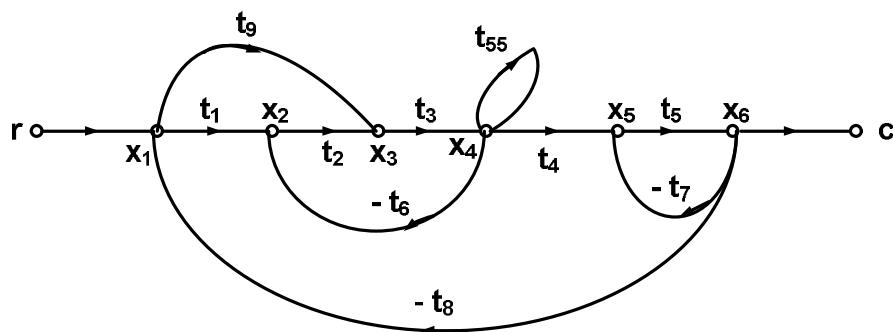

Fig.6.1. Example of a SFG model
**Input or source node:** It is a node that has only outgoing branches i.e. node 'r' in Fig.6.1.
**Output or sink node:** It is a node that has only incoming branches i.e. node 'c' in Fig.6.1.
**Chain node:** It is a node that has both incoming and outgoing branches i.e. nodes ' $x_1$ ', ' $x_2$ ', ' $x_3$ ', ' $x_4$ ', ' $x_5$ ' and ' $x_6$ ' in Fig.6.1.
**Gain or transmittance:** It is the relationship between variables denoted by two nodes or value of a branch. In Fig.6.1, transmittances are ' $t_1$ ', ' $t_2$ ', ' $t_3$ ', ' $t_4$ ', ' $t_5$ ' and ' $t_6$ '.
**Forward path:** It is a path from input node to output node without repeating any of the nodes in between them. In Fig.6.1, there are two forward paths, i.e. path-1: 'r- $x_1$ - $x_2$ - $x_3$ - $x_4$ - $x_5$ - $x_6$ -c' and path-2: 'r- $x_1$ - $x_3$ - $x_4$ - $x_5$ - $x_6$ -c'.
**Feedback path:** It is a path from output node or a node near output node to a node near input node without repeating any of the nodes in between them (Fig.6.1).
**Loop:** It is a closed path that starts from one node and reaches the same node after trading through other nodes. In Fig.6.1, there are four loops, i.e. loop-1: ' $x_2$ - $x_3$ - $x_4$ - $x_1$ ', loop-2: ' $x_5$ - $x_6$ - $x_5$ ', loop-3: ' $x_1$ - $x_2$ - $x_3$ - $x_4$ - $x_5$ - $x_6$ - $x_1$ ' and loop-4: ' $x_1$ - $x_3$ - $x_4$ - $x_5$ - $x_6$ - $x_1$ '.
**Self Loop:** It is a loop that starts from one node and reaches the same node without trading through other nodes i.e. loop in node ' $x_4$ ' with transmittance ' $t_{55}$ ' in Fig.6.1.
**Path gain:** It is the product of gains or transmittances of all branches of a forward path. In Fig.6.1, the path gains are  $P_1 = t_1 t_2 t_3 t_4 t_5$  (for path-1) and  $P_2 = t_9 t_3 t_4 t_5$  (for path-2).
**Loop gain:** It is the product of gains or transmittances of all branches of a loop In Fig.6.1, there are four loops, i.e.  $L_1 = -t_2 t_3 t_6$ ,  $L_2 = -t_5 t_7$ ,  $L_3 = -t_1 t_2 t_3 t_4 t_5 t_8$ , and  $L_4 = -t_9 t_3 t_4 t_5 t_8$ .
**Dummy node:** If the first node is not an input node and/or the last node is not an output node than a node is connected before the existing first node and a node is connected after the existing last node with unity transmittances. These nodes are called dummy nodes. In Fig.6.1, 'r' and 'c' are the dummy nodes.
**Non-touching Loops:** Two or more loops are non-touching loops if they don't have any common nodes between them. In Fig.6.1,  $L_1$  and  $L_2$  are non-touching loops
Find the overall transfer function of the system given in Fig.6.1 using Mason's gain formula.
In Fig.6.1,